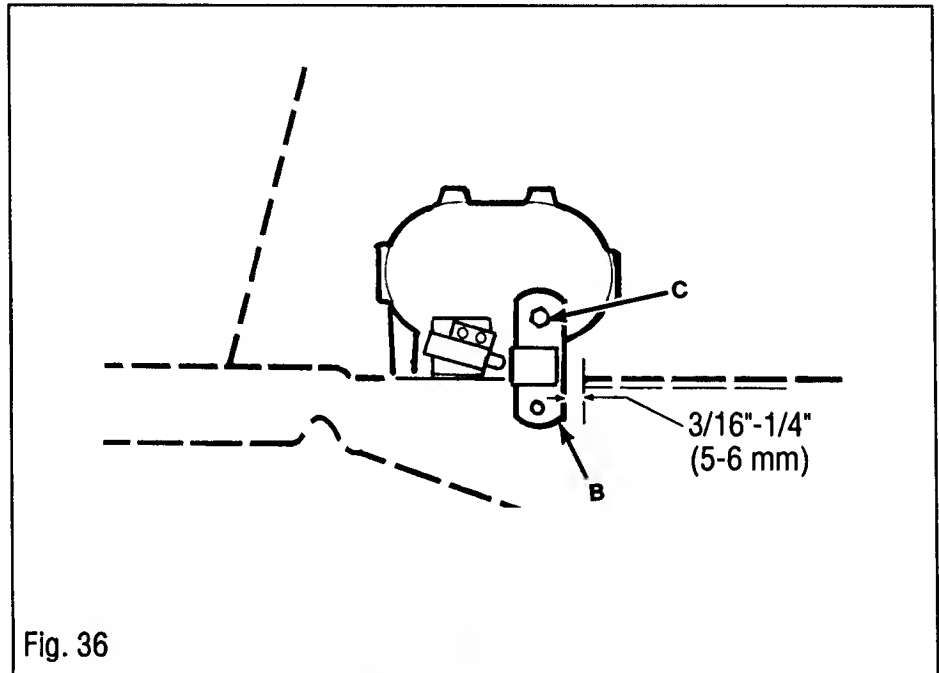

Fig. 36
2. Turn hex nuts (C, Fig. 36) holding brake lever to left-hand side of transmission to remove any play from the brake system.
3. Have an assistant push firmly on brake pedal. Adjust until a gap of 3/16" (5 mm) to 1/4" (6 mm) exists between front edge of brake lever (B) and forward edge of slot in frame the brake lever goes down through.